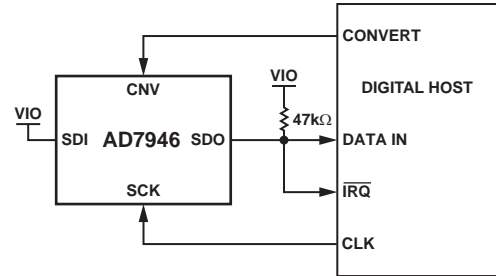
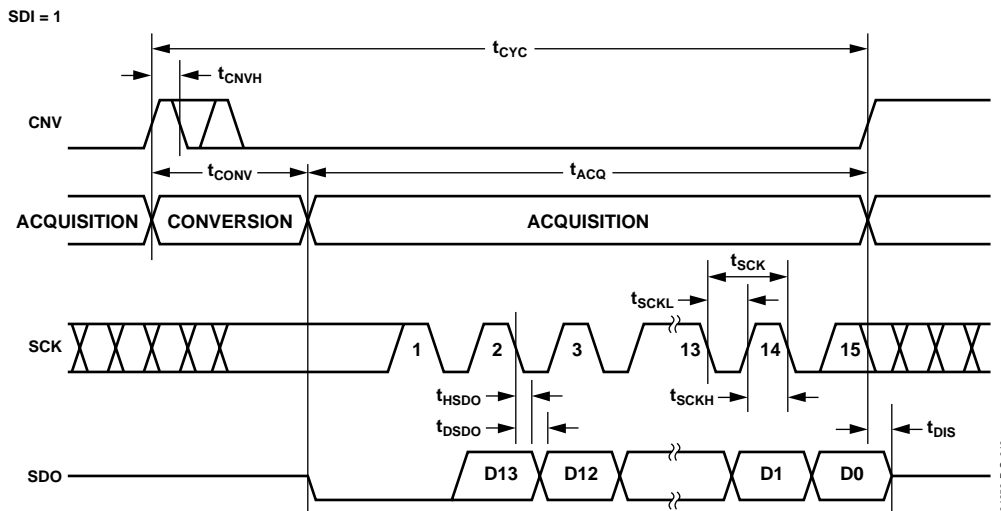
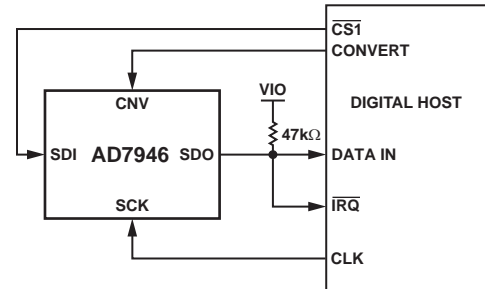
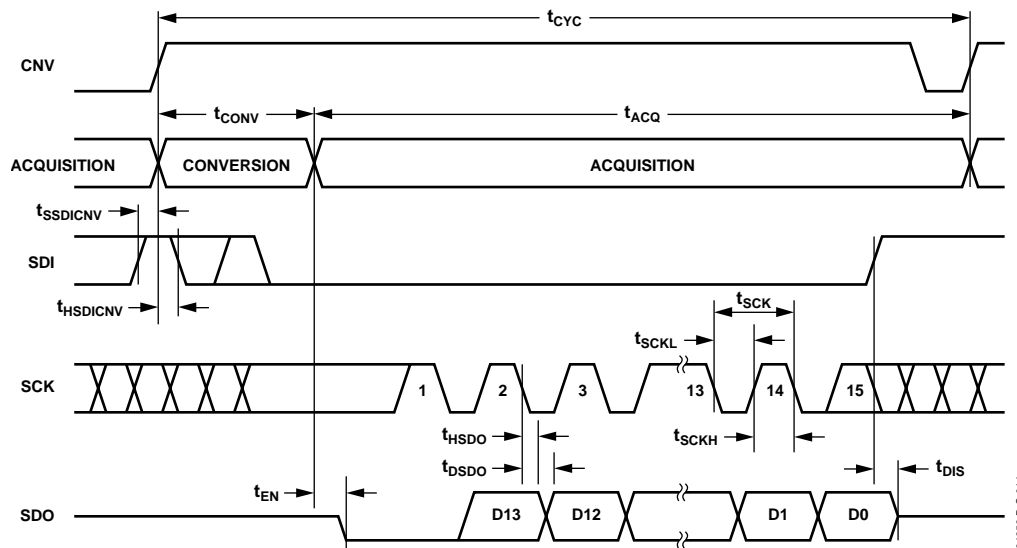

Figure 31. \overline{CS} Mode 3-Wire with BUSY Indicator Connection Diagram (SDI High)
Figure 32. \overline{CS} Mode 3-Wire with BUSY Indicator Serial Interface Timing (SDI High)
Figure 35. \overline{CS} Mode 4-Wire with *BUSY* Indicator Connection Diagram
Figure 36. \overline{CS} Mode 4-Wire with *BUSY* Indicator Serial Interface Timing
- In the $\overline{\text{CS}}$ mode, if CNV or SDI is low when the ADC conversion ends (Figure 32 and Figure 36).
The connection diagram is shown in Figure 31 and the corresponding timing is given in Figure 32.
The connection diagram is shown in Figure 35 and the corresponding timing is given in Figure 36.